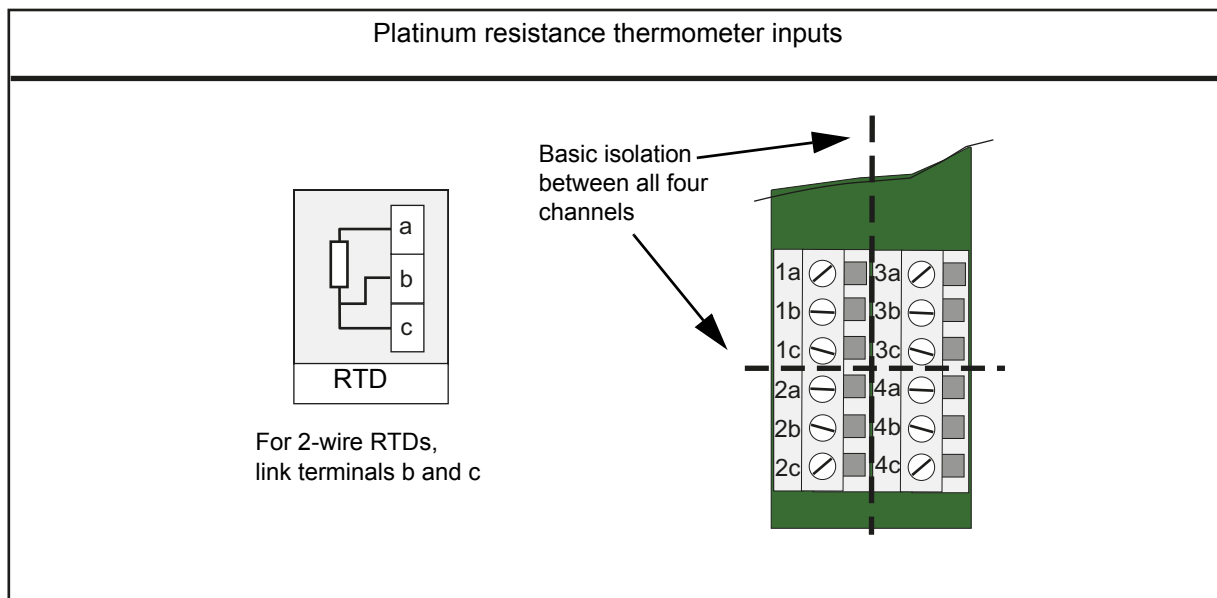

Figure 19: AI8-RT terminal unit
- **AI8-RT**—four channels of isolated platinum resistance thermometer (RTD) inputs, standard polling rate. See Figure 19 for terminal pin-out details.